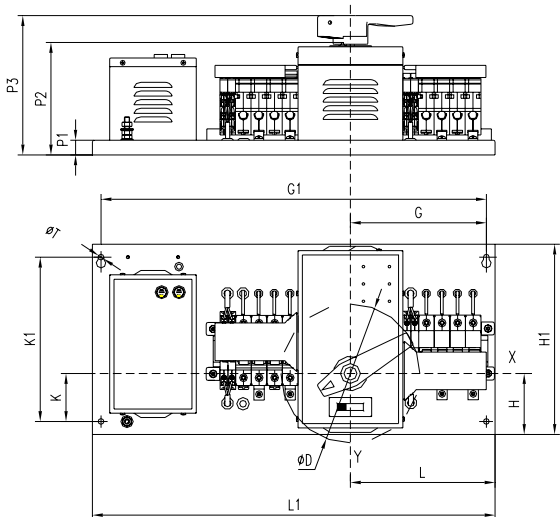
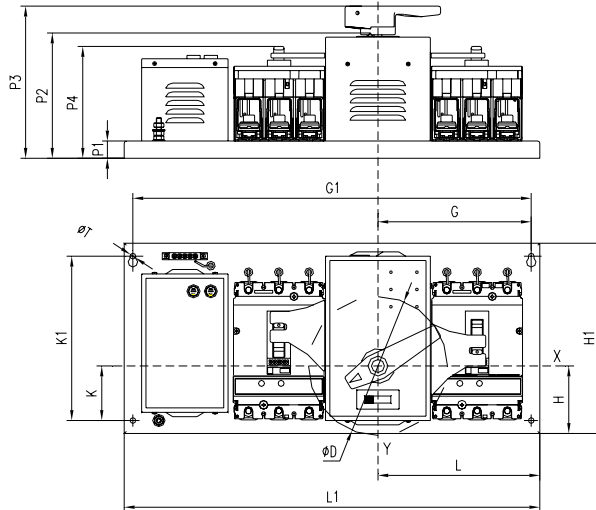

Fig . 2 ATNS63
Fig.3 ATNS 100/ 160 / 250 / 400/ 630
- For form and dimension of ATNS please refer to the Fig.2 , Fig.3 and Table 2